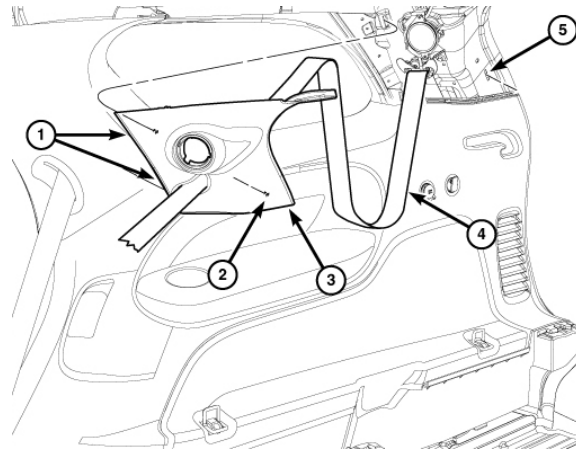

Figure 18 – D-pillar Trim
33. Using a trim stick, release the retaining clips (2) and separate the D-pillar trim panels (3) from the pillars (Figure 18).
34. Slide the trim panels down the seatbelts, away from the headliner (Figure 18).